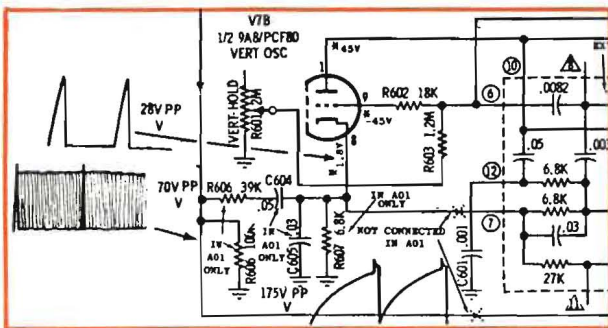

Figure 1
A. Notice the schematic in figure 1, below; Let's say the complaint is "poor vertical sync." The schematic shows there should be 70V p-p at the input of the vertical integrator (left end of R606, 39K) and 28V p-p at the output (cathode terminal of the 9A8 tube). Measuring these two voltages shows the 70V is OK but the 28V point measures only 3V. You can immediately conclude the integrator circuit is at fault. You don't waste time in costly substitutions—you go right to the trouble.